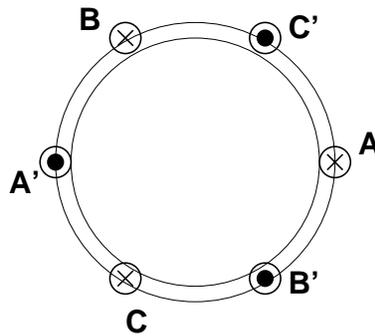
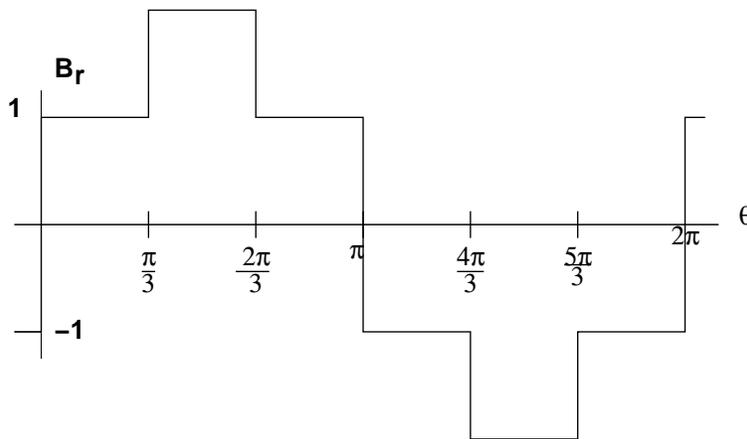

Figure 1: Cartoon of One Slot/Pole/Phase Winding
Figure 2: Expected Flux Density Pattern
**Problem 1:** The six slot, two pole winding pattern is shown in cartoon form in Figure 1. If a given current in Phase A produces a peak flux density of one unit (whatever that unit might be), that implies a 'jump' of flux density of two of that unit across the location of Phase A (angle of zero). If the winding is driven by a balanced current set, at time  $t = 0$ ,  $I_a = I$ ,  $I_b = I_c = -I/2$ . Thus we expect to see a flux density distribution with 'jumps' of  $+2, +1, -1, -2, -1, +1, +2, \dots$  at angles of  $0, \pi/3, 2\pi/3, \pi, 4\pi/3, 5\pi/3, 2\pi, \dots$ . This is shown in Figure 2.